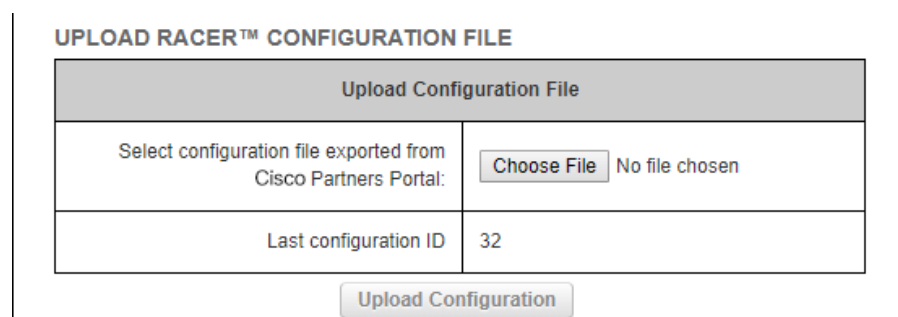

Figure 21. Configurator interface (FM Racer configuration file upload dialog)
3. Click the **Choose File** button in the **Upload Configuration File** section (Figure 21 (page 59)).